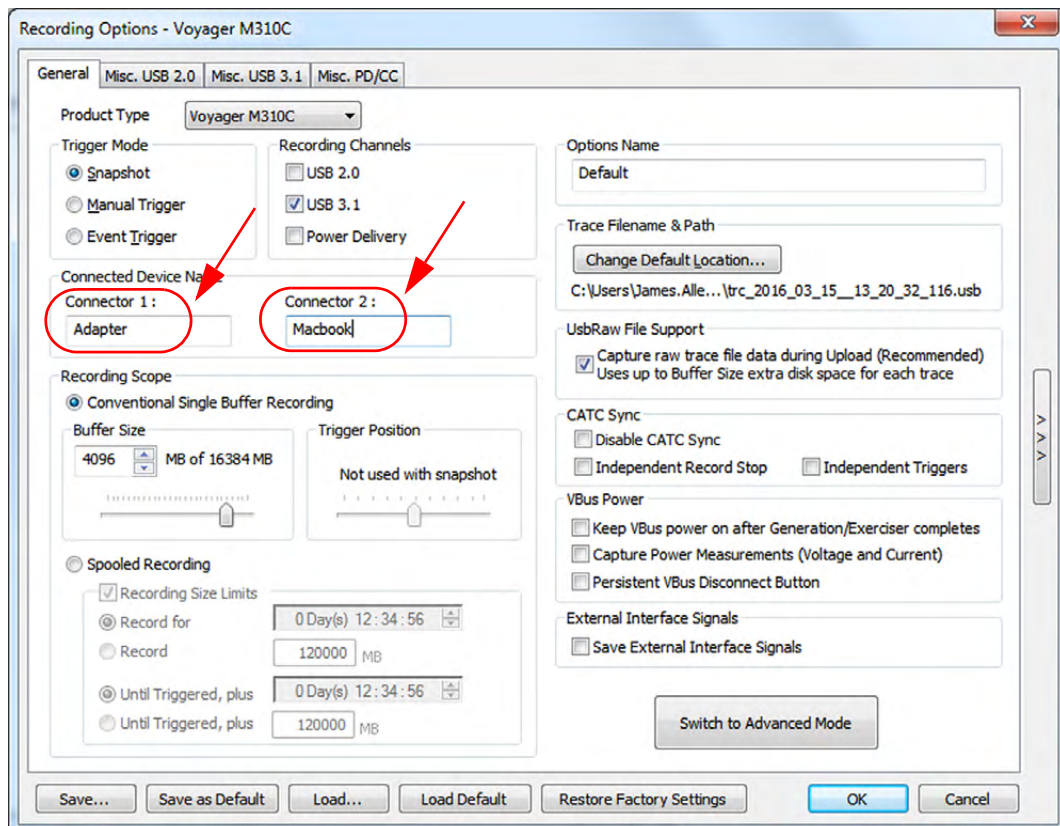
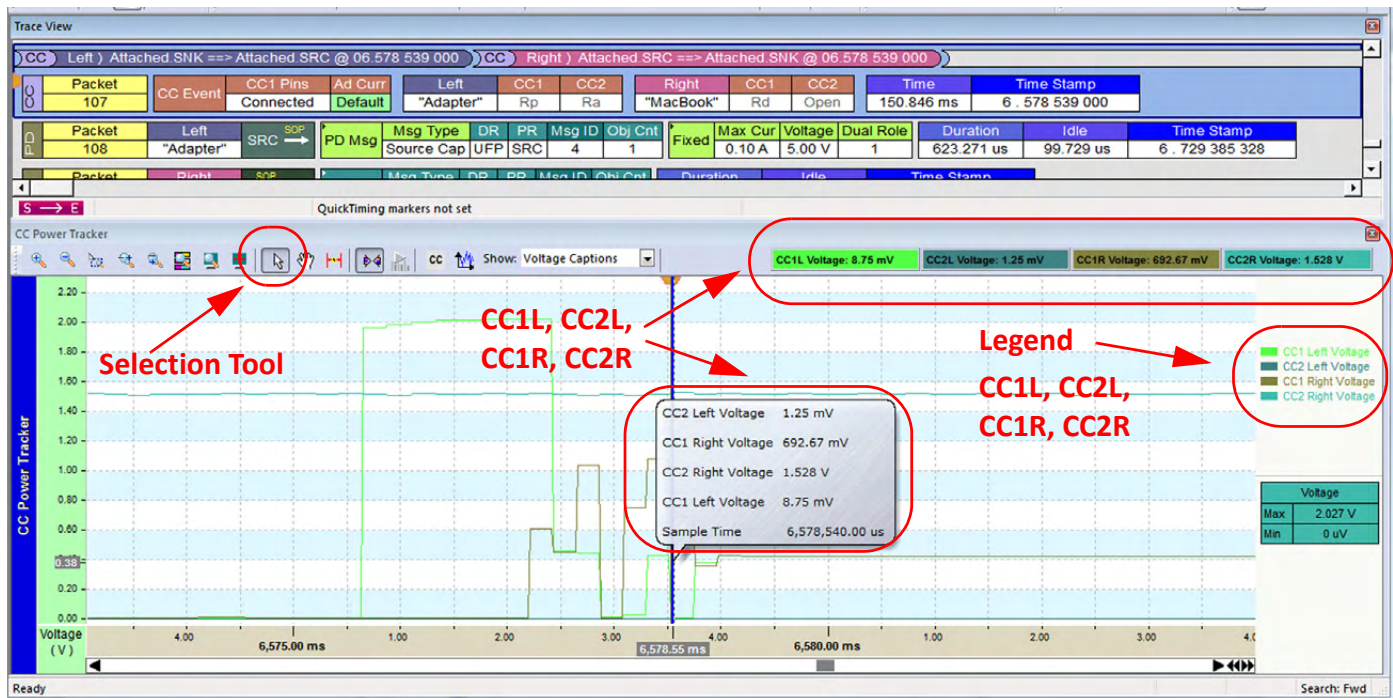

Figure 9.57: Voyager M310C: Recording Features for Left and Right Connectors
Figure 9.58: Configuration Channel (CC) Power Tracker Display: Packet 107
When setting Recording Options, the Left and Right Analyzer connectors can be labeled and those labels will show up in the trace file. See Figure 9.57 and Figure 9.58 on page 353.
Voyager M310C also provides the voltages of the Configuration Channel (CC) pins in a separate window (CC Power Tracker View). Left “Adapter” is for Connector 1 (CC1L, CC2L) and Right “MacBook” is for Connector 2 (CC1R, CC2R). See Figure 9.58.